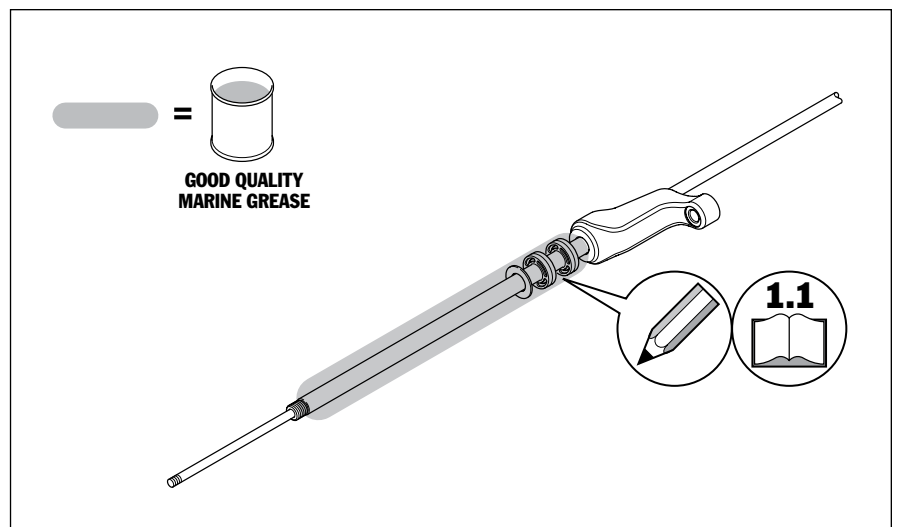

Figure 6.
- Using good quality marine grease, lubricate the support rod in the area shown in Figure 6.